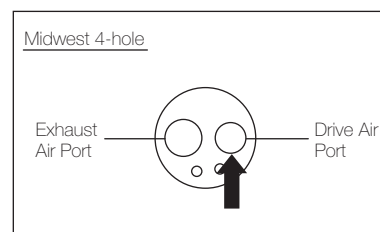

Fig. 6
- 2) Insert the tip nozzle into the Drive Air Port of the motor (IPA). Hold the motor and spray for approximately 2-3 seconds. Apply lubricant until it comes out from the exhaust air port (see Fig. 6) for at least 2 seconds.